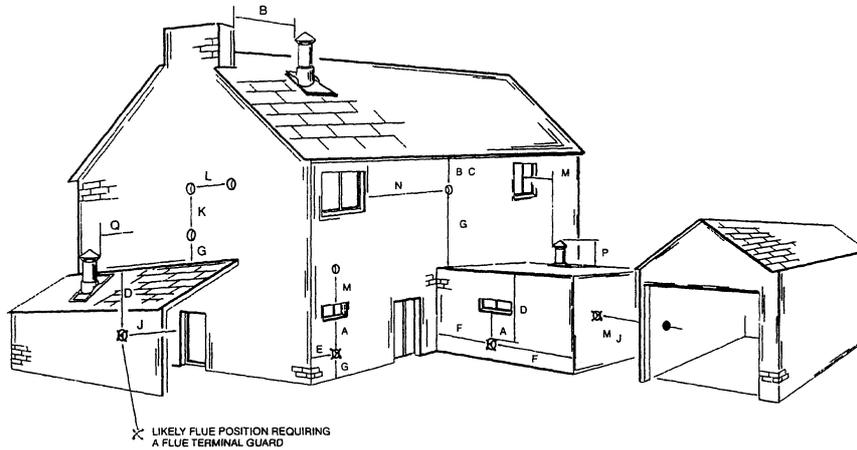

Fig 6
**4.6.1** The terminal should be located where dispersal of combustion products is not impeded and with due regard for the damage or discolouration that might occur to building products in the vicinity (see fig. 6).
Minimum acceptable spacing from the terminal to obstructions and ventilation opening are specified in Fig. 6.